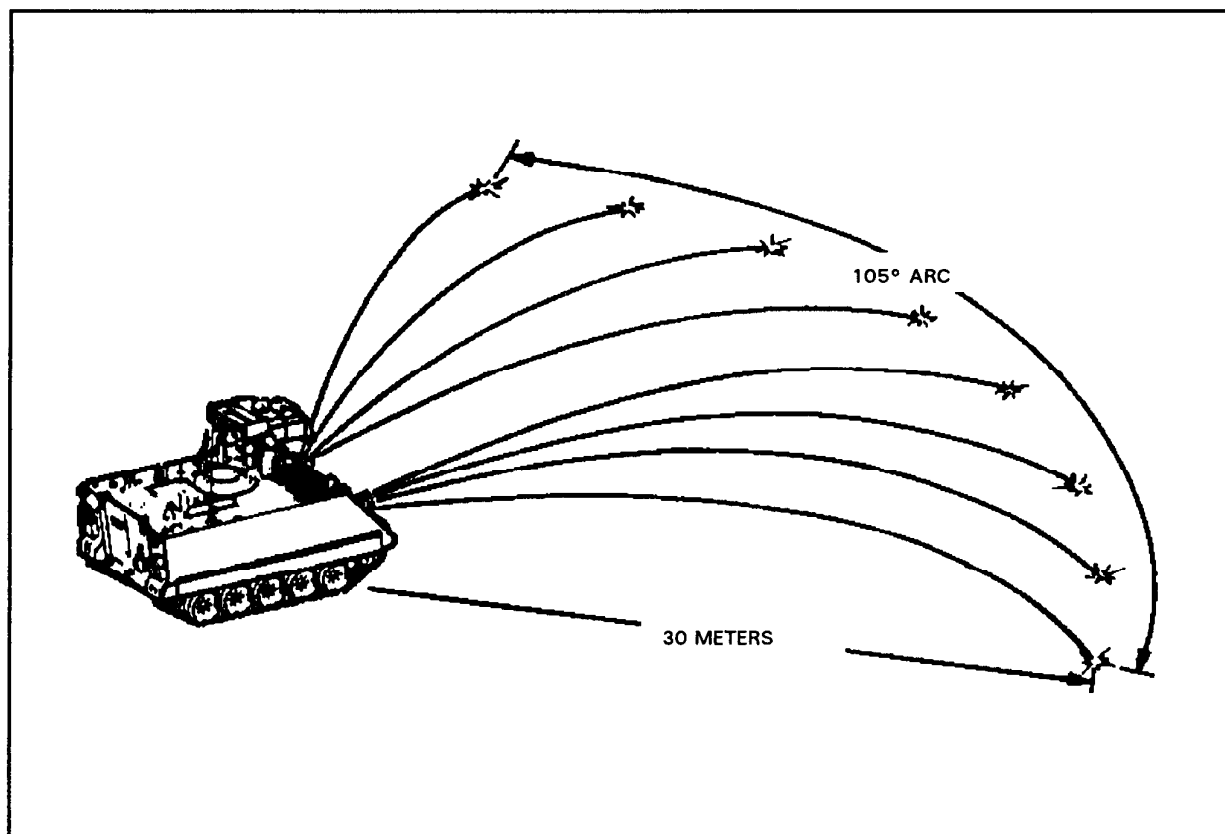

Figure 4-16. Pattern of detonation.
b. **Fire the Smoke Grenades.** Eight grenades detonate in about a 105-degree arc 30 meters from the vehicle. The smoke cloud is about 9 meters high and lasts about one to three minutes, depending on wind (Figure 4-16). The front of the vehicle is facing the area where the smoke is to conceal the movement of the vehicle. The gunner places the smoke launcher ARM-OFF switch to ARM. He presses the FIRE button when ready to fire.